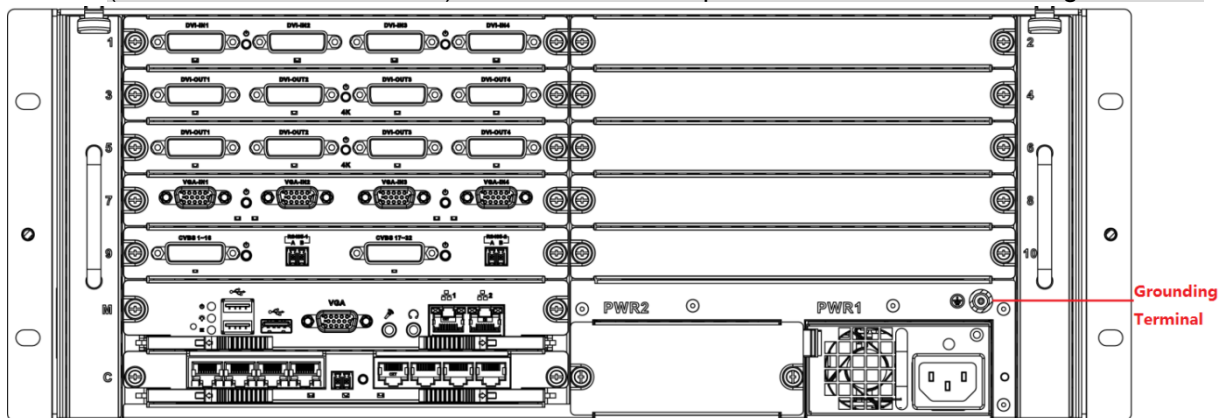

Figure 1-10
**Step 7** Ground terminal of Video Matrix Platform shall realize reliable grounding, as shown in Figure 1-10.